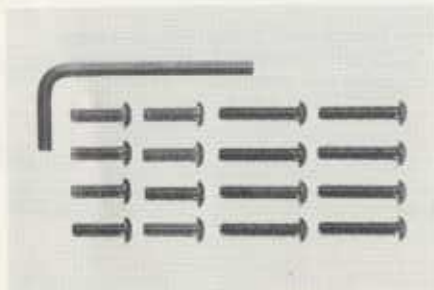

Fig 4
3. Remove the column from polystyrene pack as illustrated (Fig 2) and remove polystyrene end cap revealing the bottom of the cabinet. Attach metal base plate of stand with four socket metal button screws provided. Fig 3 Allen key for tightening these screws is provided in your accessory pack, Fig 4 and it is important that they are properly tightened.